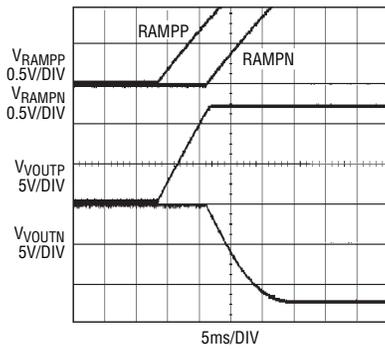

Figure 6. Power-Up Sequencing (V_{OUTP} followed by V_{OUTN})
- V_{OUTP} ramps up first, followed by V_{OUTN} (shown in figure 6)